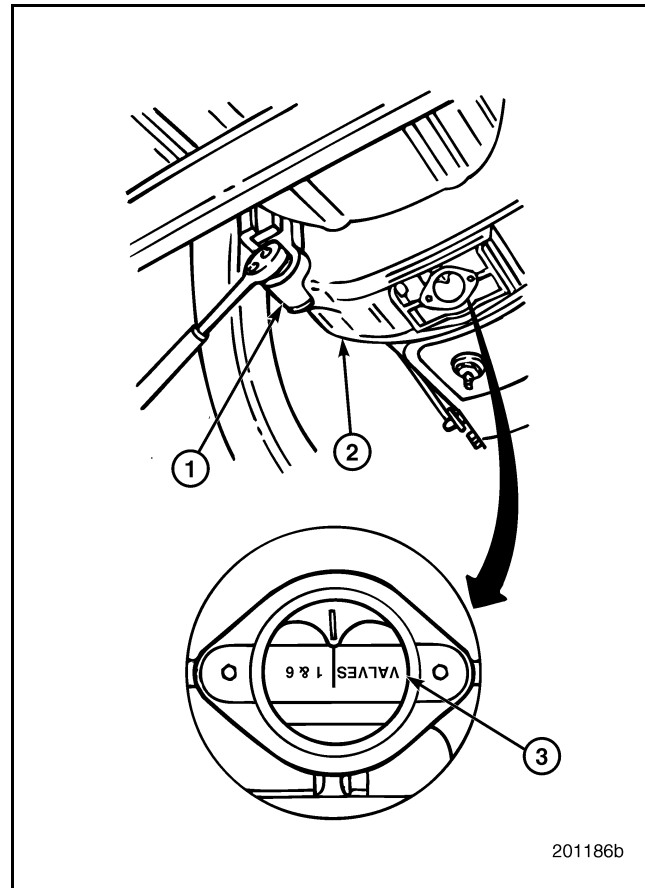

Figure 575 — Valve Adjustment Markings on Flywheel
1. Using a barring socket, manually rotate the engine crankshaft (Figure 575) in normal rotation direction 120 degrees until the center of the timing pointer hole in the flywheel housing aligns with the “2 and 5” mark on the flywheel and the No. 5 piston is on the compression stroke.